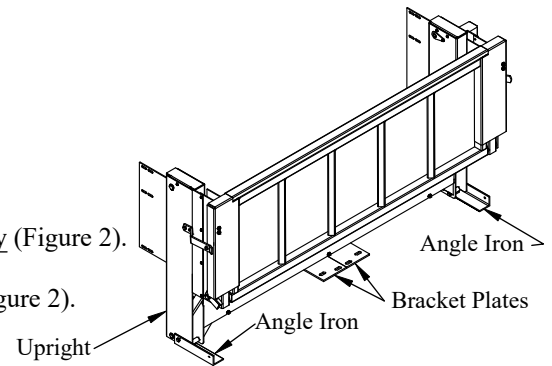

Figure 2: Complete liftgate (**G2** shown).
4. Unbolt and Save the two (2) angle irons attached to the liftgate uprights- **G2** only (Figure 2).
5. Remove and Save the two (2) bracket plates attached to the liftgate- **G2** only (Figure 2).